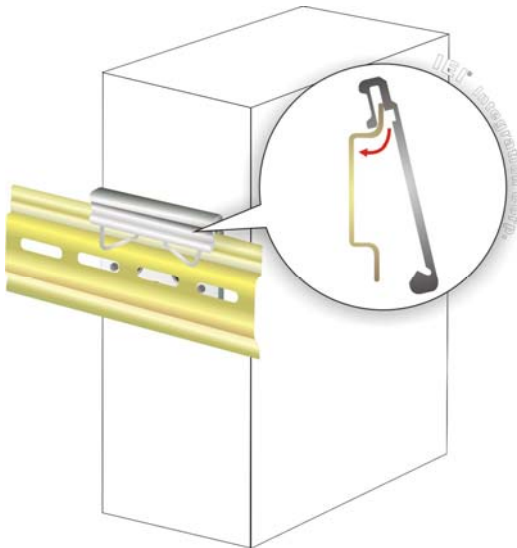

Figure 3-11: Attach the Mounting Bracket to the DIN Rail
Step 2: Attach the upper edge of the mounting bracket to the DIN rail as shown in **Figure 3-11**.